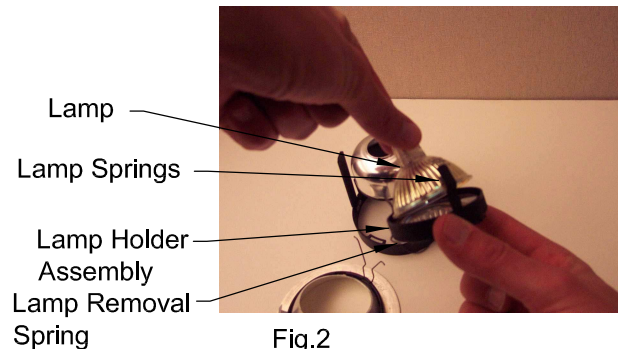

Fig.2
1.) Insert MR-16 LAMP between LAMP SPRINGS until face of LAMP sits firmly on GLASS LAMP GUARD. *Fig. 2*